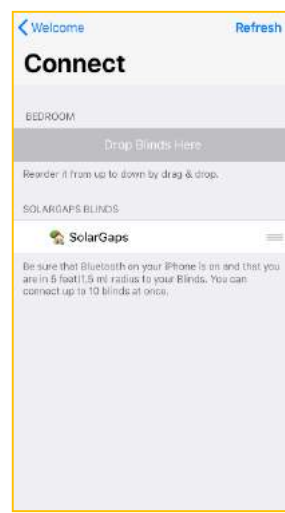

Figure 6
10.2.3.3. As soon as the BLINDS appear on the screen, swipe them to **Drop Blinds Here** (Fig. 6).